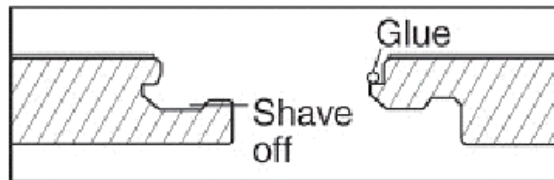

Figure 5
9. When coming to the end or in the event that it is required for the tile to slide under a door frame, it is recommended to shave off the lip of the groove, put some adhesive/PVC pipe weld into the groove and top of the tongue, slide the tongue into the groove. (Figure 5).